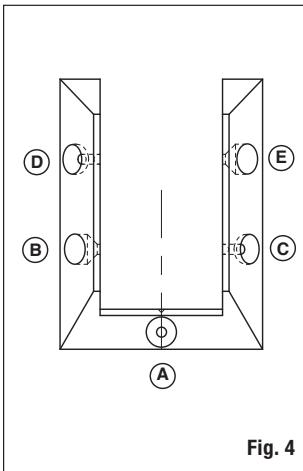

Fig. 4
- Place the bottom fence rail bracket on the fence post and align the center indicator mark on the bracket with the mark on the post. Insert and fasten a 2" screw through the screw hole A (fig. 4) and into the post.
- Place the top fence rail bracket on the fence post and align the center indicator mark on the bracket with the mark on the post. Insert and fasten a 2" screw through screw hole A (fig. 4) and into the fence post. Repeat steps on next fence post for top and bottom bracket.